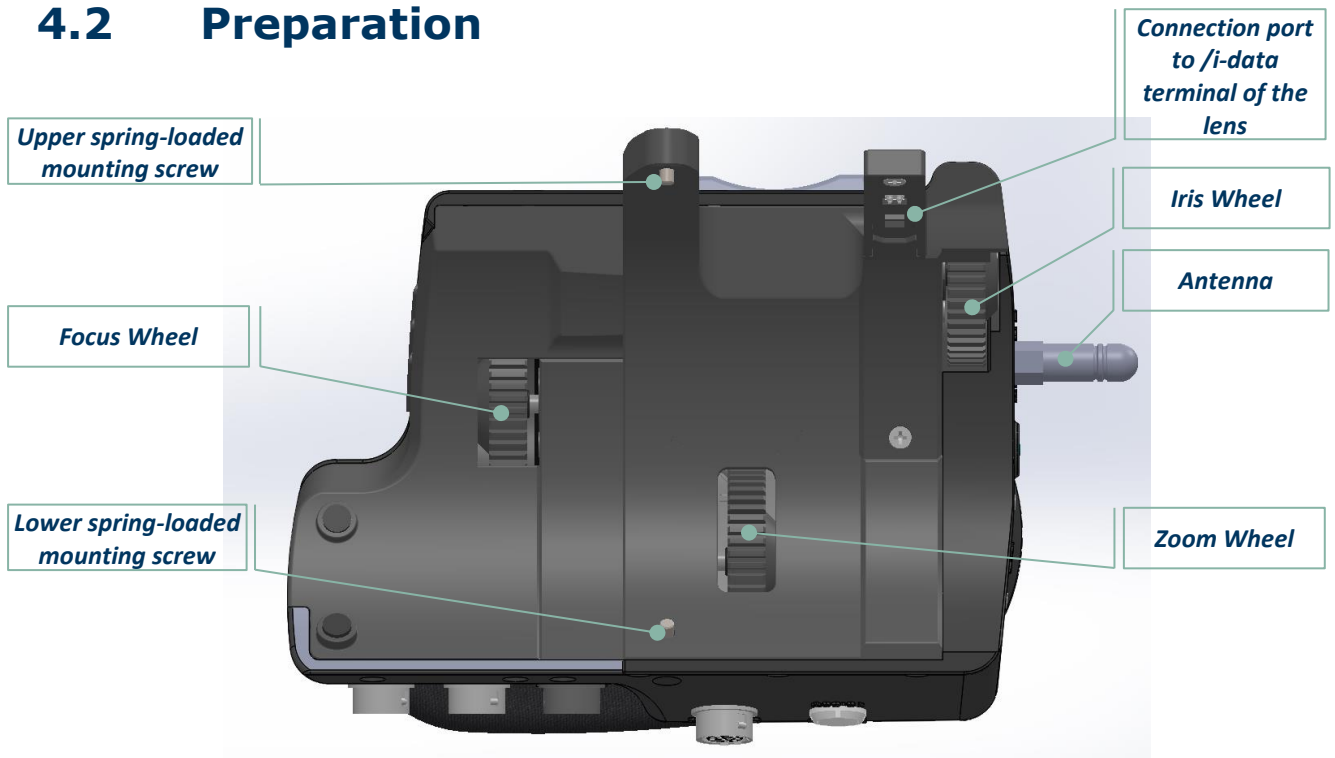

Figure 1
5. With the additional included 2,5 mm Allen Key, screw the lower spring-loaded mounting screw (see Figure 1 above) in the lower thread of the lens. Do the same with the upper spring-loaded mounting screw. Do not fully tighten the lower screw until the upper one is screwed in. Finally fix both screws carefully not overturning the threads. Ensure that all gears are attached to the standard 0.8mm pitch gears of the lens.